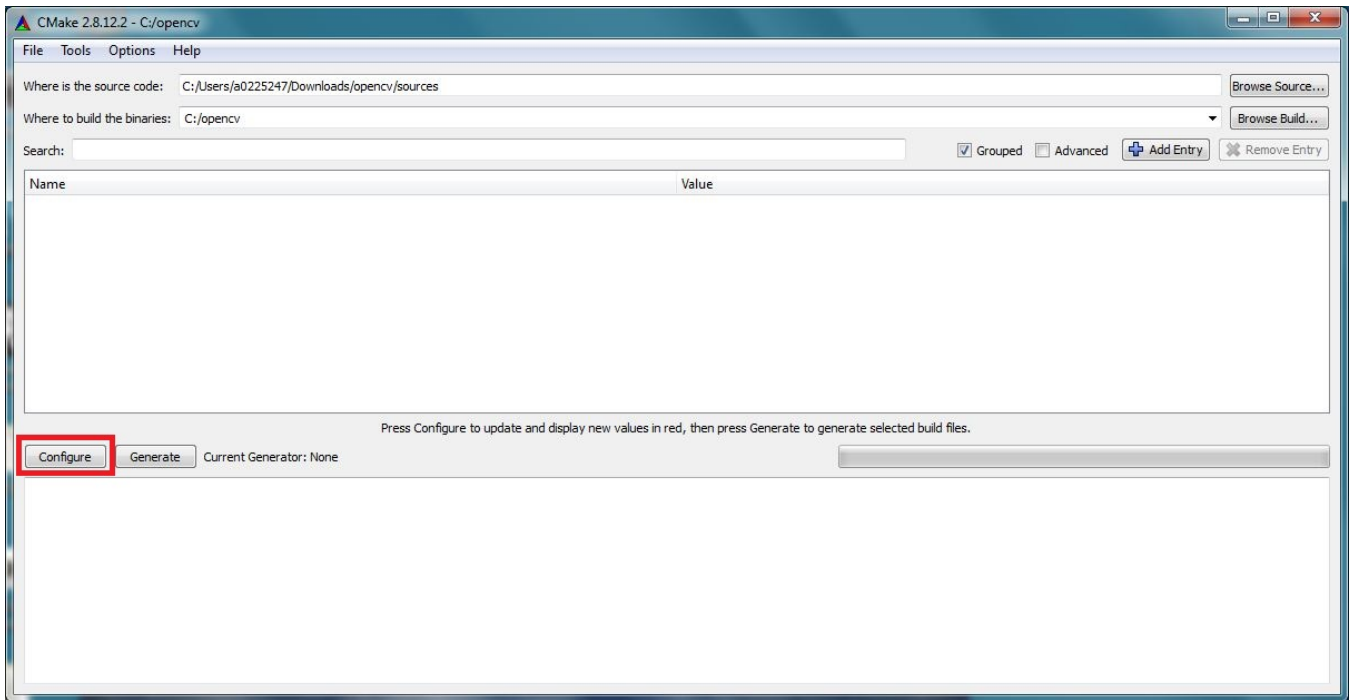

Figure 4-24. Cmake GUI Configure Build
- Click the **Configure** button in the Cmake GUI, highlighted in Figure 4-24.